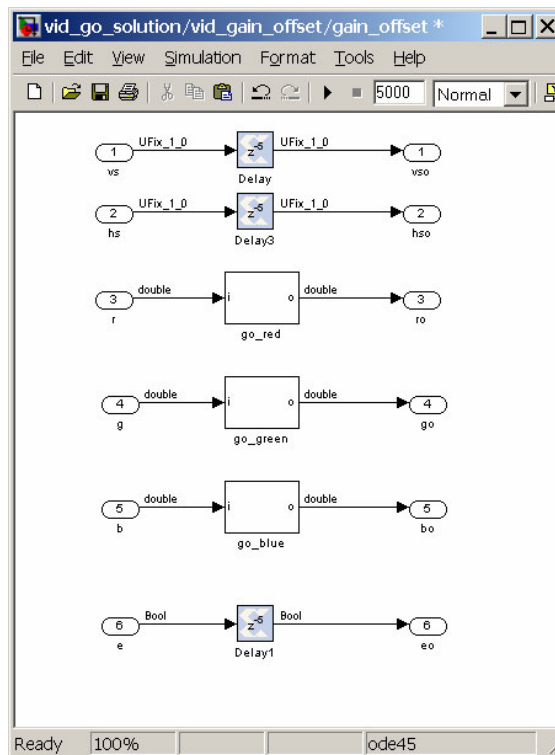

Figure 6-7: Design Saved as vid\_go.mdl
11. Set the delays for `hsync`, `vsync`, and `pixel_enable` in the `gain_offset` subsystem to match the latency of the `gain_offset` blocks. See Figure 6-7.